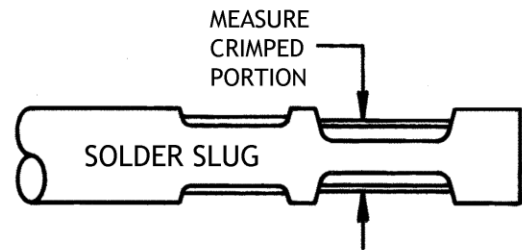

Fig. 4
5. Measure crimped portion of solder with calipers (See Figure 4). Check actual dimension with table tolerances ( $\pm 0.004"$  or  $\pm 0,10\text{mm}$ ). Shut height dimensions for wire crimp die inserts should not be greater than or less than tolerance dimension.